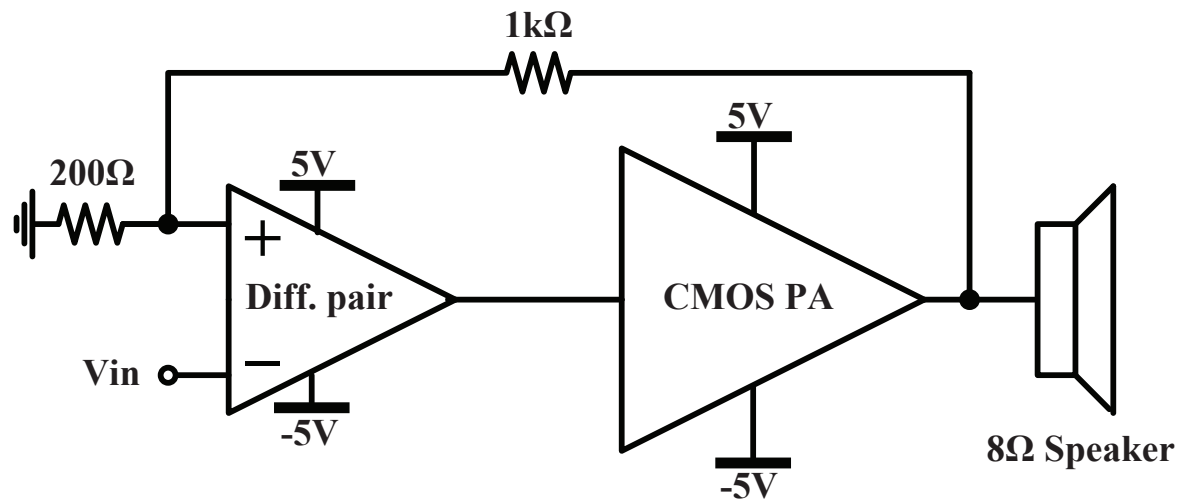
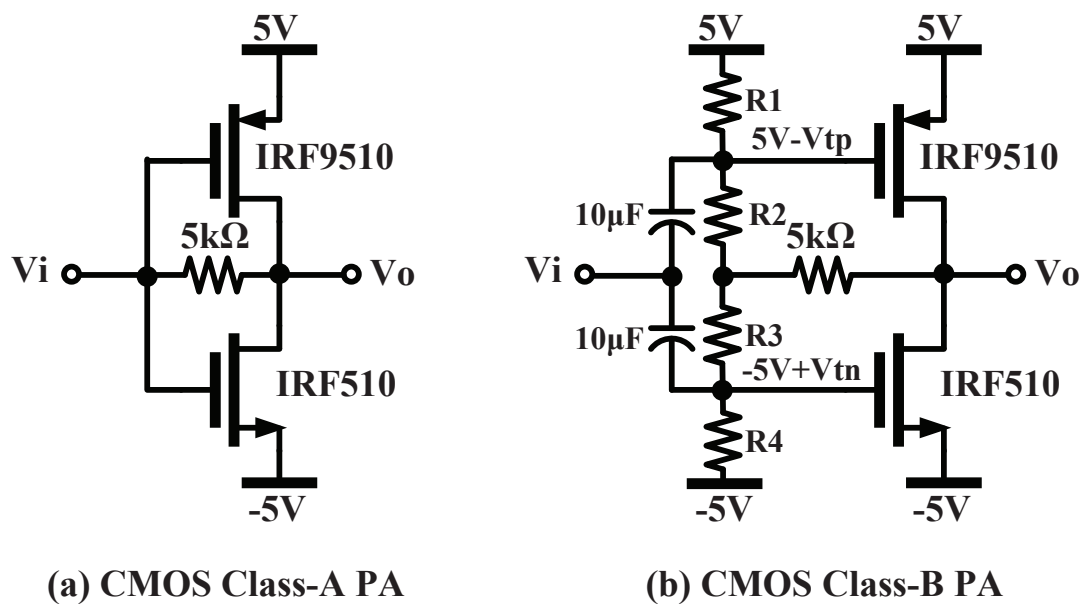
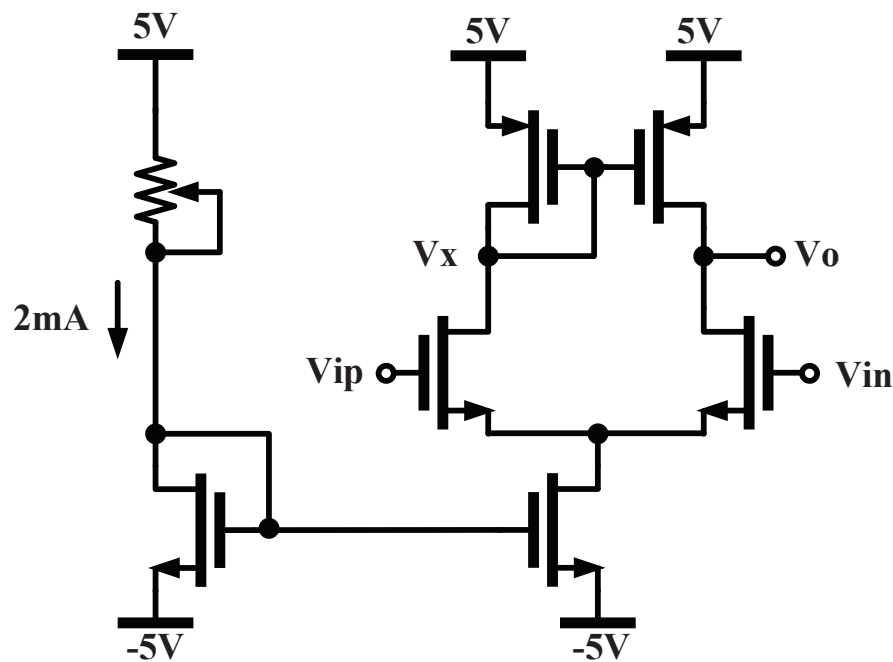

Figure 1: Audio power amplifier with feedback loop
Figure 2: CMOS output stages: a) Class A, b) Class B
Figure 3: Differential Pair
Class A PAs are linear but have poor efficiency. In contrast, class B PAs can have very high efficiency but they operate under strong nonlinearities. The linearity of a class B PA can be significantly improved by employing a negative feedback around the power amplifier as shown in Figure 1. The opamp acts as an error amplifier which samples a fraction of the output voltage (V_o) and amplifies the difference between it and the input voltage (V_i).
In this lab, you will simulate and test the Audio Power Amplifier with feedback shown in Figure 1. This system consists of a differential pair, similar to the one in Lab 4, as well as a CMOS PA (also called "output stage"). You will build first a Class-A and then a Class-B output stage as shown in Figure 2. Then, you will build the differential pair, as shown in Figure 3. Finally, you will build the feedback loop around the differential pair and Class-B PA. For the differential pair, you will use transistors ALD1101 and ALD1102 as in Lab 4, while for the CMOS PA, you will use power transistors IRF510 and IRF9510. The power transistors have large $V_{breakdown}$ and are able to sustain large currents and voltages ($> 10A, < 10V$) at their terminals. An $8\text{-}\Omega$ speaker is connected to the output to convert voltage to sound.
1. Run a 50-ms transient simulation for the Class-A output stage in Figure 2 (a) with 1-kHz $1\text{-}V_{pp}$ input. Show the input voltage and output voltage waveform. Set the maximum time step of the transient simulation to $1\text{ }\mu\text{s}$. Plot the output spectrum using the FFT function of the simulator. Find the power consumption of the amplifier when the input signal amplitude is 10mV_{pp} and when it is 1V_{pp} .
2. Repeat step 1 for the Class-B output stage in Figure 2 (b). Use the value for R_1 , R_2 , R_3 , and R_4 determined in lab 3 such that both the p-MOSFET and the n-MOSFET are biased at threshold (little or no current flowing through them).
3. Determine the gain of the amplifier in Figure 1. What happens to the volume that the speaker would produce when the $1\text{-k}\Omega$ feedback resistor value is varied?
4. The schematics in Figures 2 (a) and (b) use two supplies, 5V and -5V. This arrangement centers the output at 0V and allows us to DC couple the output stage directly to the speaker.
5. Build the linearized power amplifier with feedback in Figure 1 with the class B output stage and set the voltage gain to 4 (by adjusting the $1\text{-k}\Omega$ resistor). Replace the 8Ω load resistor with the speaker. Connect your Class A output stage and apply a sound waveform (from your cellphone or iPod) at the input. Observe the sound quality.